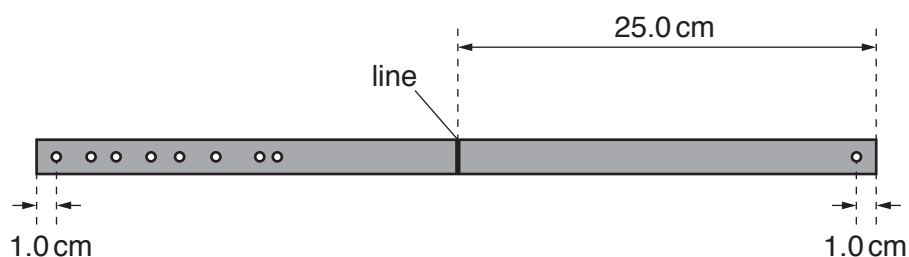

Fig. 1.1 (not to scale)
- 1 The wooden strip should have a line drawn around it at a distance of 25.0 cm from one end, as shown in Fig. 1.1.